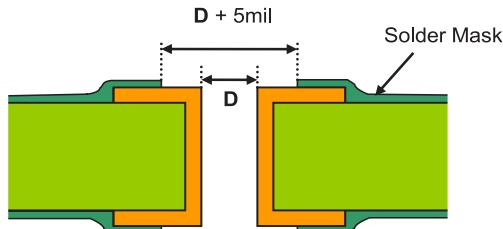

Figure 16: Solder Mask opening for via holes.
- [33] Via holes should have solder mask openings on both sides of the board, centered about the hole, as shown in Figure 16. The required diameter of the opening should be $D + 5\text{mil}$ where D is the diameter of the plated hole.